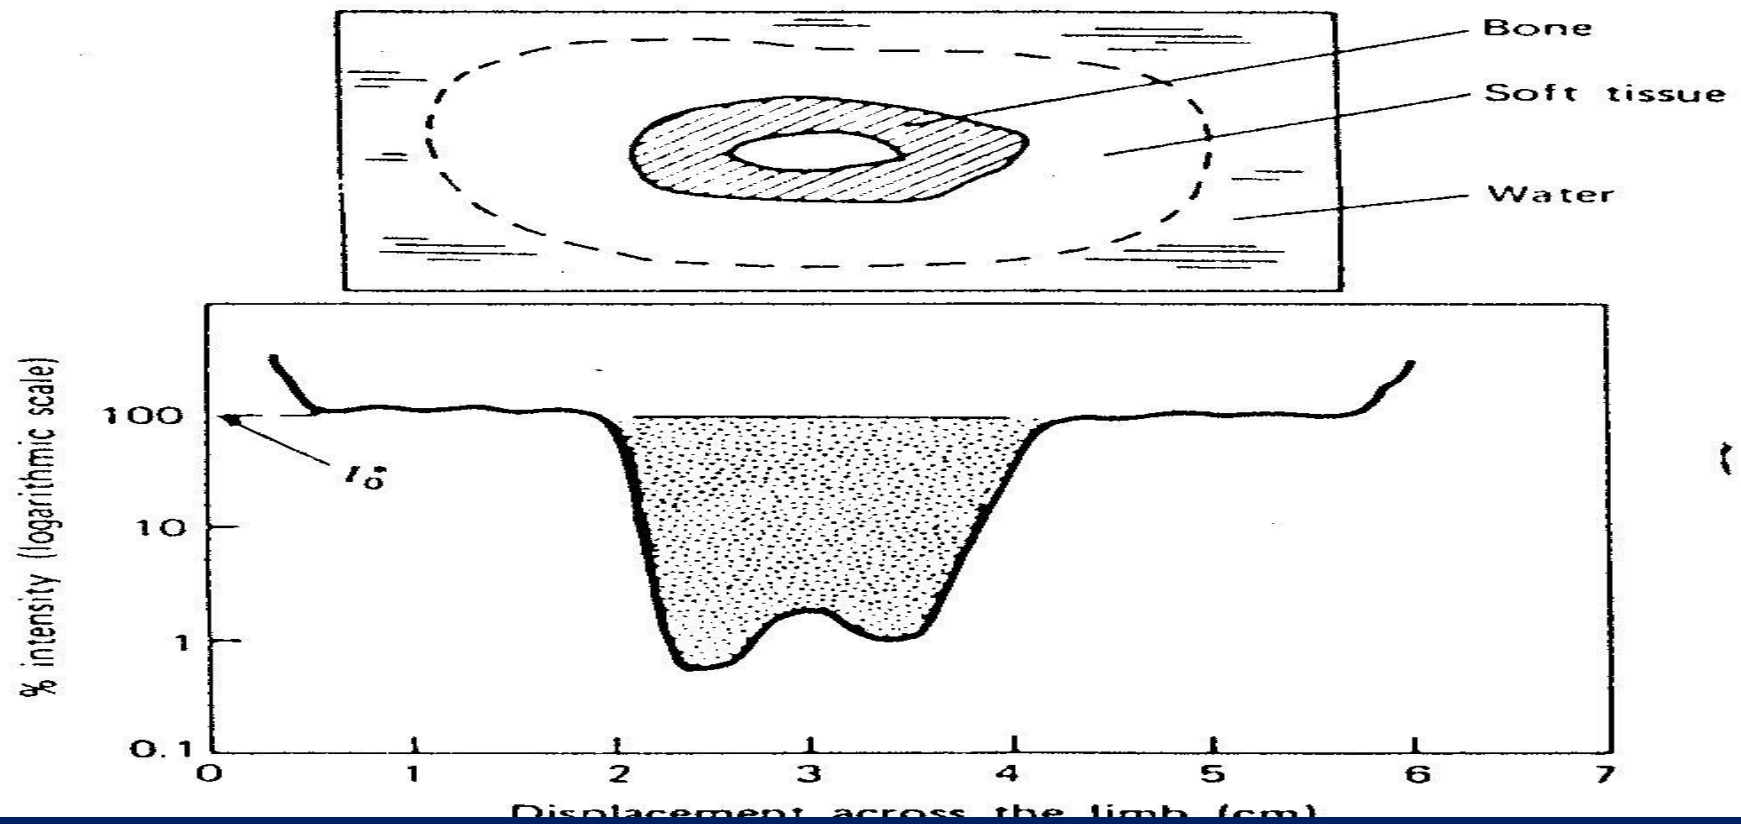

FIGURE 8. THE SHADED AREA IS PROPORTIONAL TO THE BONE MINERAL MASS PER UNIT LENGTH
Figure 8. Shows a graph of the logarithm of the transmitted intensity of the beam ($\log I$), and the intensity before the beam enters the bone is called I_0 . The bone mineral mass (BM) at any point in the beam is proportional to $\log (I_0/I)$ and is given by